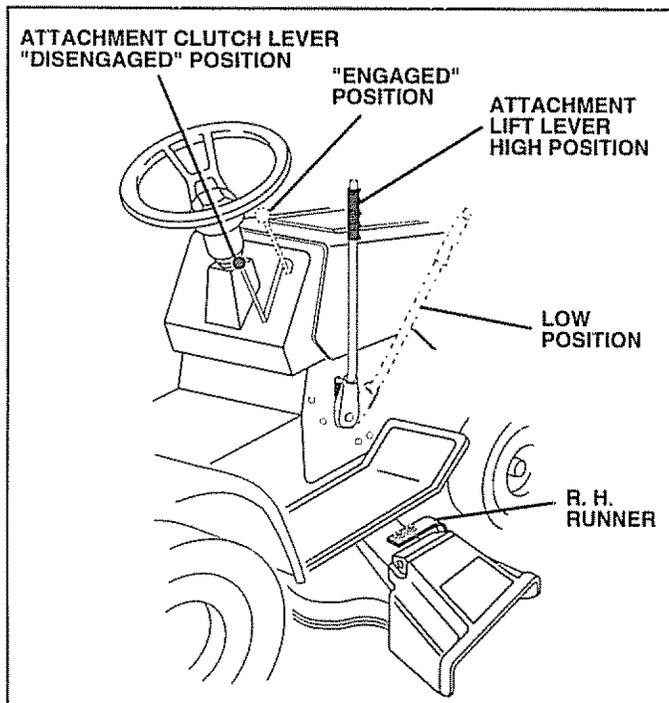

FIG. 8
TO OPERATE MOWER (See Fig. 8)
- Use the runner on the right hand side of mower as a guide. The blade cuts approximately an inch outside the runner (See Fig. 8)